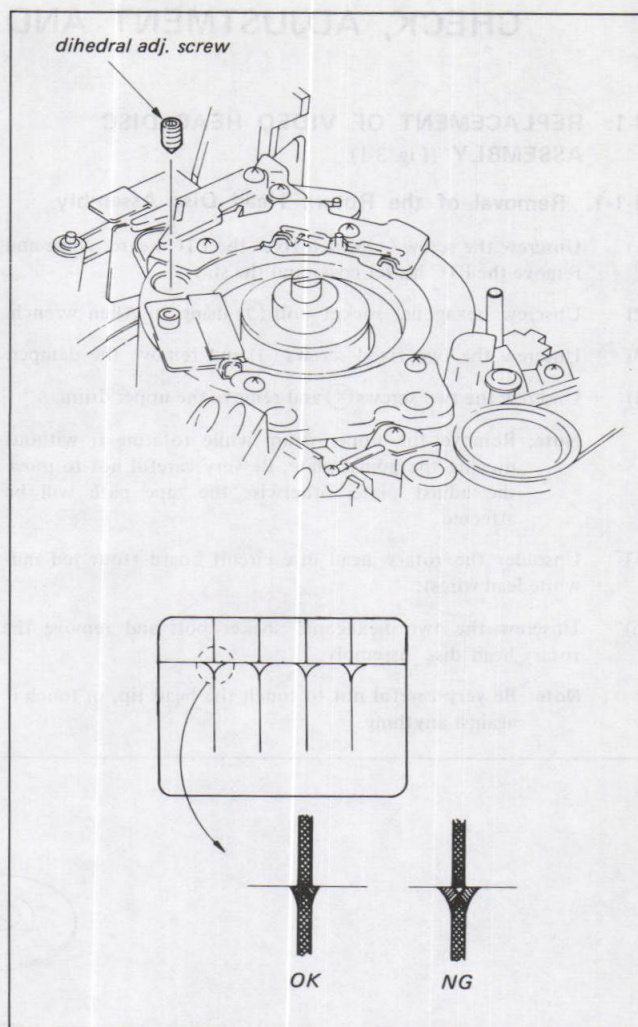

Fig. 3-2. Video head dihedral adjustment
1. As shown in Fig. 3-2, screw in the two angle adjustment screws (Jig Ref. No. J-10) so that the lead wires from the video head are on the same level as the red adjusting screw hole and the top of the adjusting screw hole, and the top of the adjusting screw is on the same level as the top of the video head disc.